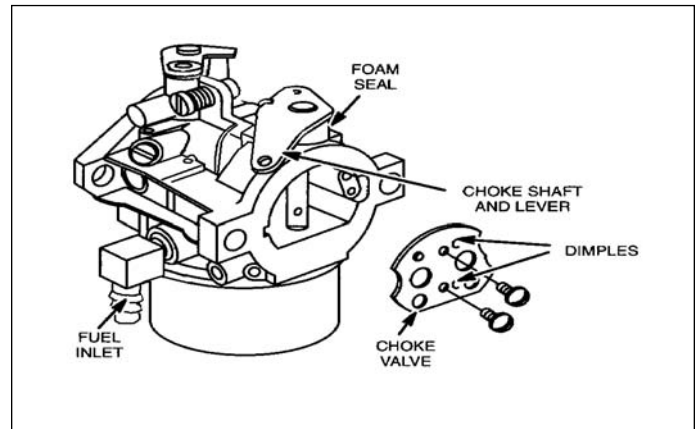

Figure 44 - Removing Choke Shaft
1. Rotate choke shaft and valve to closed position, hold and remove two screws securing choke valve. See Figure 44.